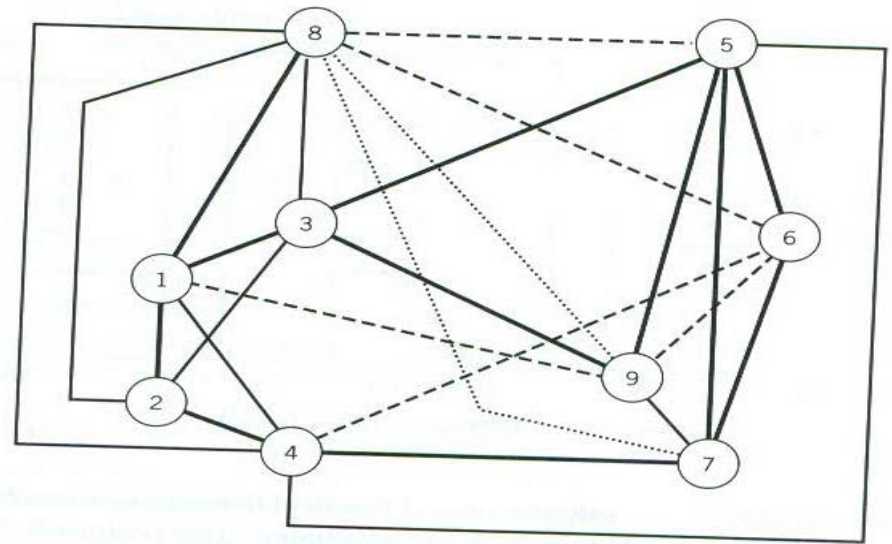

Figure 6.5 Relationship diagram.
- Based on the input data and an understanding of the roles and relationships between activities, a material flow analysis (from-to-chart) and an activity relationship analysis (activity relationship chart) are performed. From the analyses performed, a relationship diagram is developed. **(FIG 6.5)**